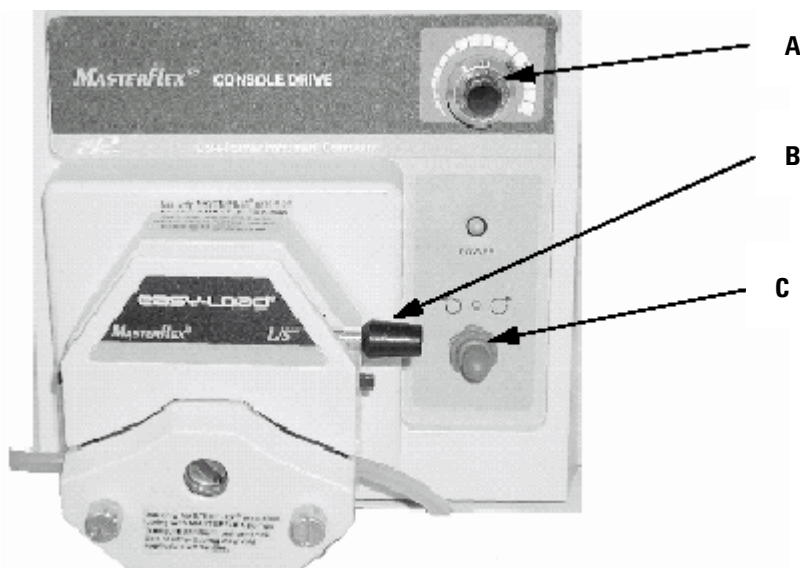

Figure 8. Peristaltic pump – front view
Figure 8 depicts a front view of the peristaltic pump. The speed control is (A) located on the upper right front corner of the pump.